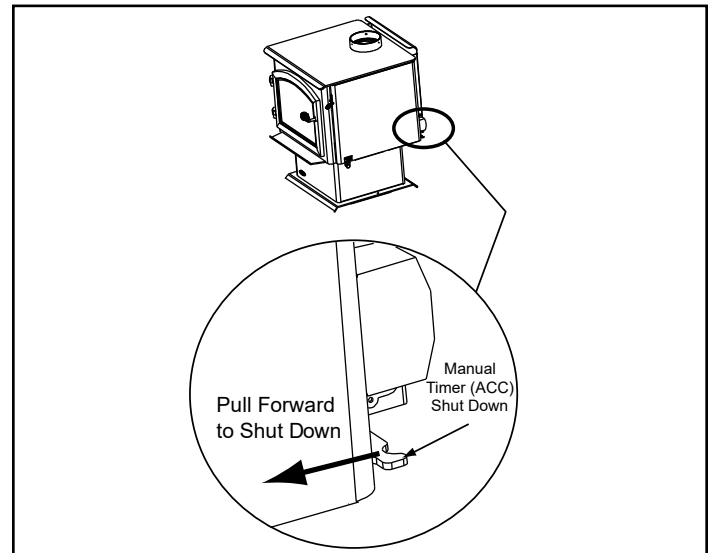

Figure 11.3
**Manual Timer Over-Ride:** If you need to shut the ACC system off before it goes through the cycle of shutting itself off; 25 minutes, reach towards the back of the appliance on the right side and pull the lever towards the front of the appliance (Figure 11.3).